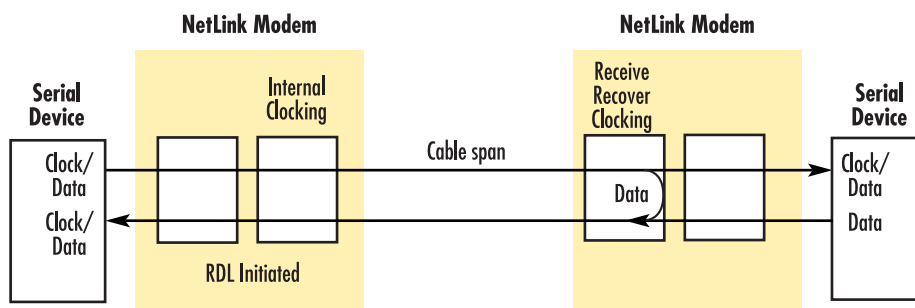

Figure 145. Remote loopback diagram
- **rdl** (remote loopback)—The remote loopback test checks the performance of the local and remote NetLink modems. Any data sent to the remote NetLink modem in this test mode will be echoed (returned) back to the originating device (i.e., characters typed on the keyboard of a terminal will appear on the terminal screen) (see figure 145).